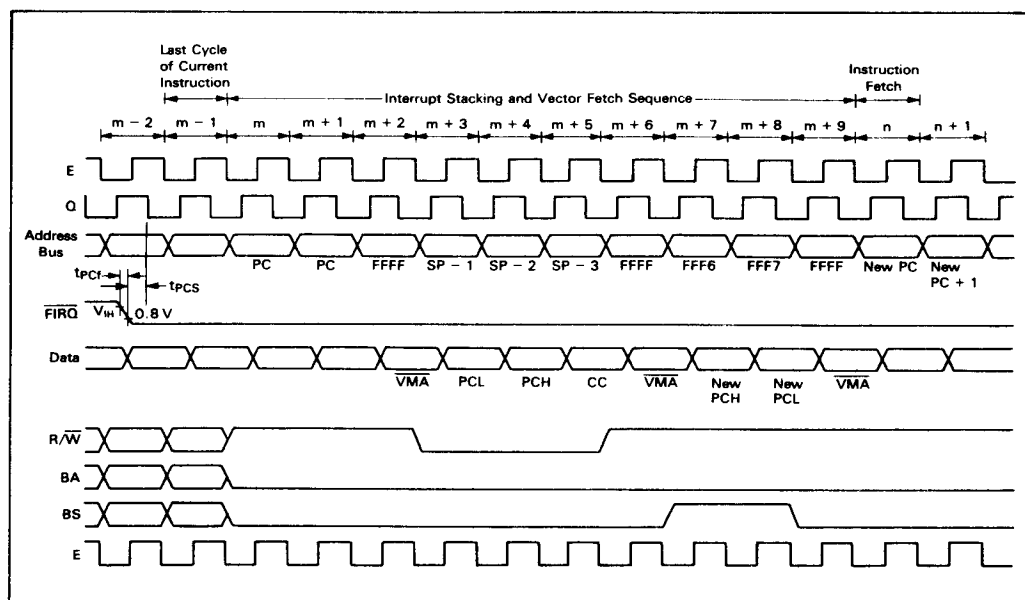

Figure 7. FIRQ Interrupt Timing
A low level on $\overline{\text{FIRQ}}$ input will initiate a fast interrupt sequence provided its mask bit (F) in the CC is clear. This sequence has priority over the standard interrupt request ($\overline{\text{IRQ}}$). It is fast in the sense that it stacks only the contents of the condition code register and the program counter. The interrupt service routine should clear the source of the interrupt before doing an RTI. See figure 7.